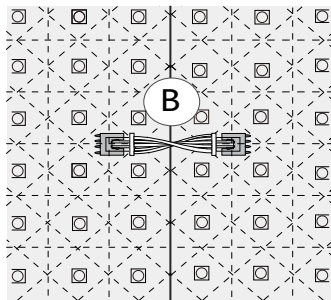

Figure 1
Short sheet-to-sheet connectors (B): When adjacent Light Sheets are mounted side-by-side with connection blocks aligned, the shorter sheet-to-sheet connection wires (B) should be used to interconnect multiple sheets. Their lengths are optimized so sheets align snugly. See Figure 1.